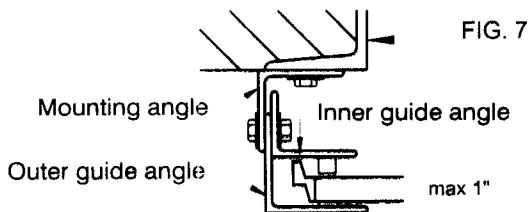

FIG. 7
**NOTE: For high wind zones (HVHZ) refer to drawings ALP 1-01/03 or ALP 2-01/03 for proper mounting conditions. Caution: Guide space should not exceed 1" or windlocks may not engage properly. (see Fig. 7)**